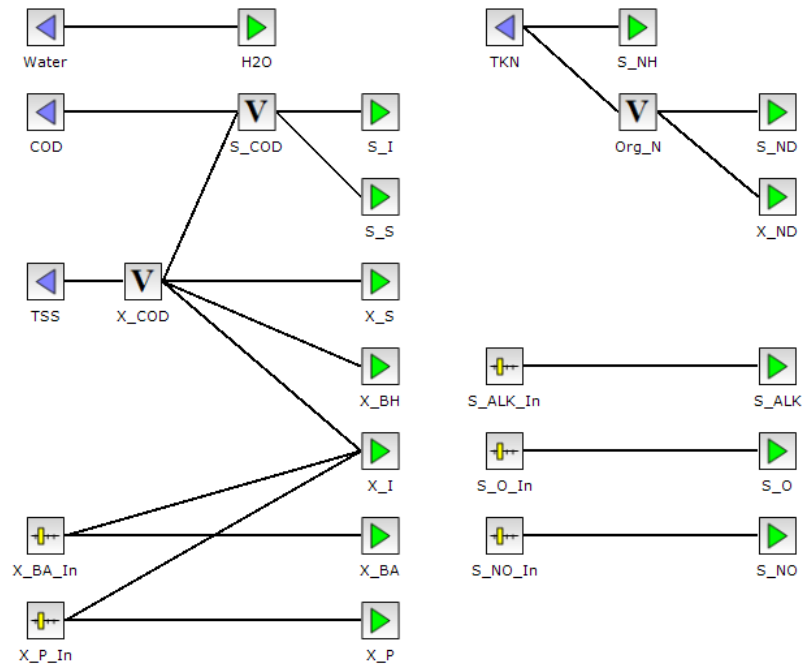

Figure 3.4 Default ASM1 fractionation layout
- **Fractionation:** Load the WEST.ASM1.Input.Layout.xml Fractionation Layout (Figure 3.4)